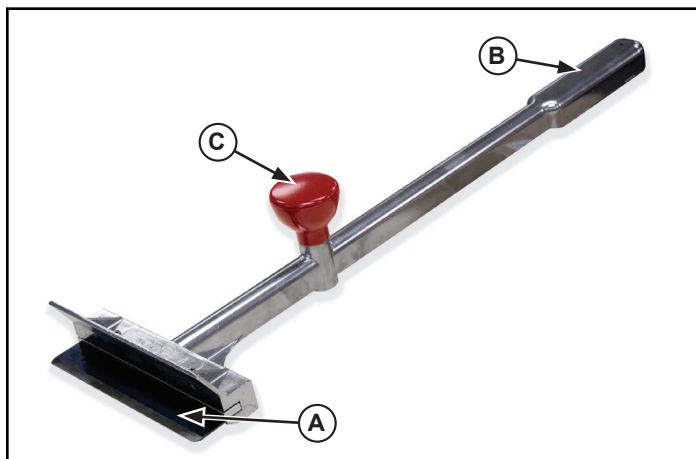

Figure 1. Features and Controls
2. With one hand on the handle (B) and other hand on the knob (C), place the Grill Tender® scraper on the grill surface. See Figure 1. With a firm front-to-back motion, scrap the carbonized food particles from the grill surface.